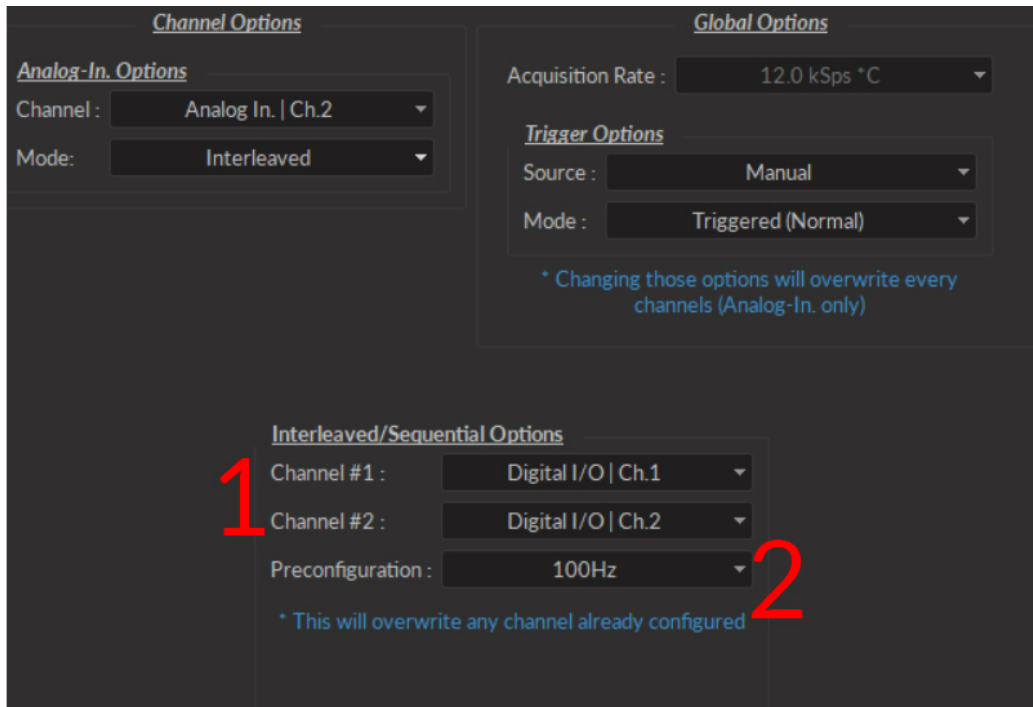

Figure 3.24: Channels configuration, Analog Input Interleaved Mode
The following section describes the usage of the **Interleaved** measurement mode for **Analog Input** channels. Once the **Interleaved** channel mode is chosen, the the **Interleaved/Sequential options** box (Fig. 3.24) appears, containing the following parameters.
- The **Raw Data** (AIn-1) (Fig. 3.24) shows the raw signal received on the input channel.
- The **Intermediate Data** (AIn-1 x DI/O-1) (Fig. 3.24) traces show the fluorescence signal caused by each light source, obtained by multiplying the output signals by the input signal.
- The **Deinterleaved Data** (AIn-1 x DI/O-1(mean)) (Fig. 3.24) shows the averaged signal of each demodulated pulse. This leaves a single averaged point per pulse sent by the output channels.